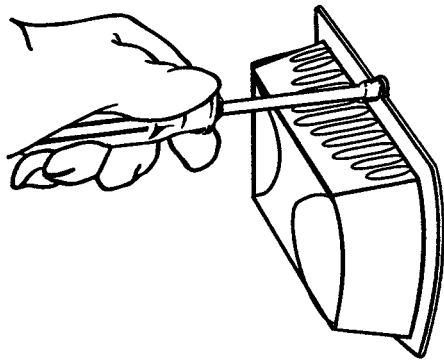

Figure 80
c. Remove protective bulb shield by using a 1/4" drive or socket wrench. See Figure 80.